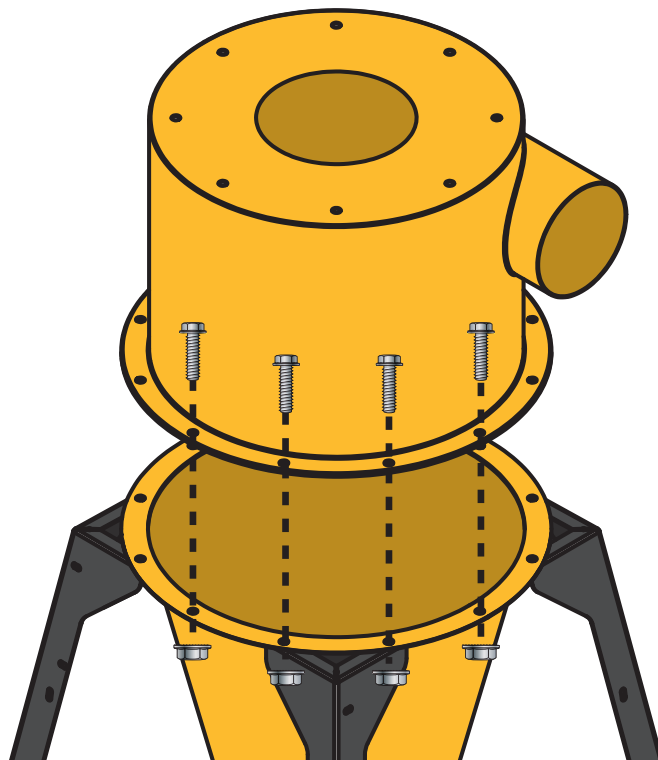

FIG. 4
- 4 Once your cone is aligned with the supplied support, lift the Barrel (C) onto the Cone (D), making sure to align the corresponding flange holes. Secure both components to the support using twelve Flange Bolts (K2A) and twelve Whiz-Lock Nuts (K2B) [FIG 4].